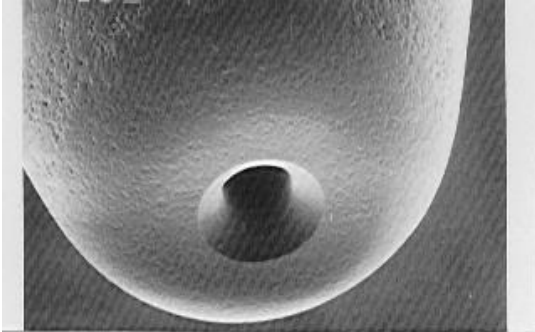

Abb. 2. Bond-Kapillare
**Figure 2** — The above loops were made with the simple rectangular motion. The loops are generally low in profile. The low profile is acceptable for relatively short loop lengths and for IC devices that have the bond pads close to the edge.